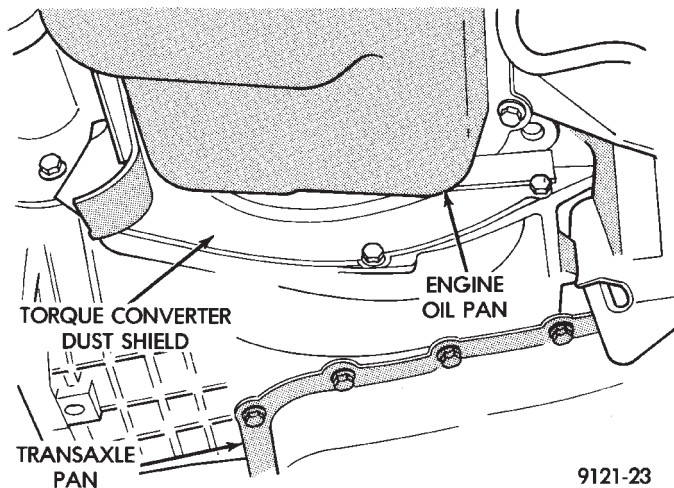

**Fig. 1 Engine Support Fixture (Typical)**
- (1) The transaxle and torque converter must be removed as an assembly; otherwise, the torque converter drive plate, pump bushing or oil seal may be damaged. The drive plate will not support a load; therefore, none of the weight of the transaxle should be allowed to rest on the drive plate during removal.
- (2) Disconnect negative battery cable.
- (3) Disconnect transaxle shift linkage.
- (4) Install engine support fixture and support engine (Fig.1).